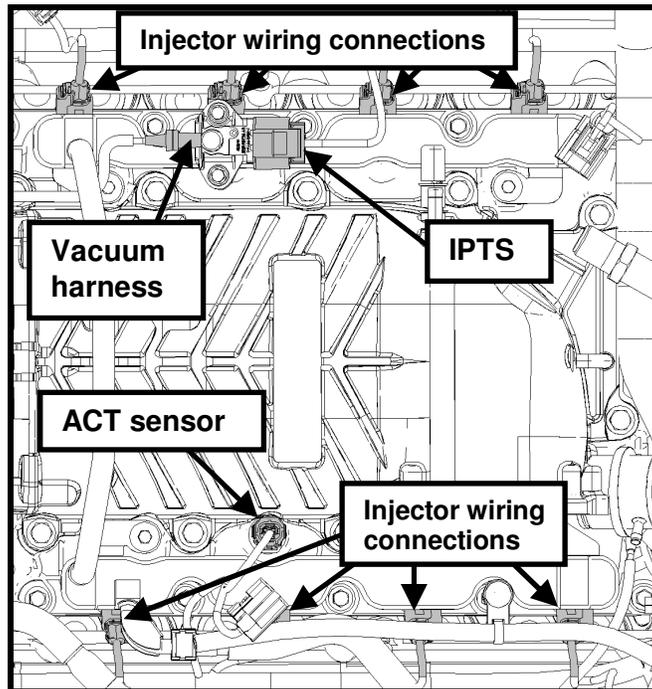

Fig. 18
**STEP 3:** Connect fuel injector wiring harnesses, fuel pressure regulator (IPTS) electrical harness, vacuum harness and ACT wiring connector (See Fig. 18).